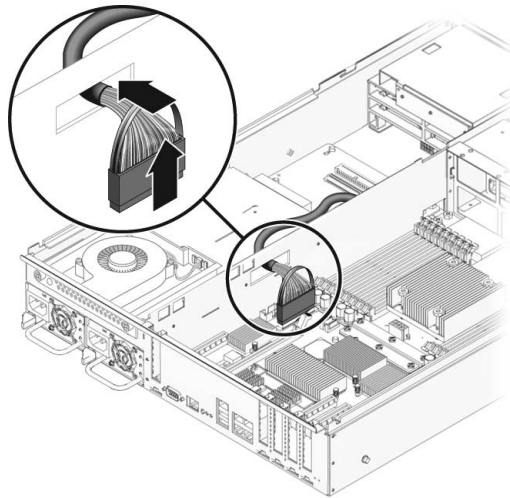

FIGURE 5-12 Cable Cutout
- Disconnect the cable marked P8 (FIGURE 5-12).
The SAS hard drive and the cable marked P8 pass through a cutout in the interior wall of the chassis. Before removing the motherboard assembly, ensure that these cables are out of the way. The SAS hard drive cables can be folded back over the interior wall or passed through the cutout (FIGURE 5-12). However, the cable marked P8 is large and contains a number of small wires. The cable will not easily pass through the cutout. While pushing and pulling the cables through the cutout be careful not to damage the wires.